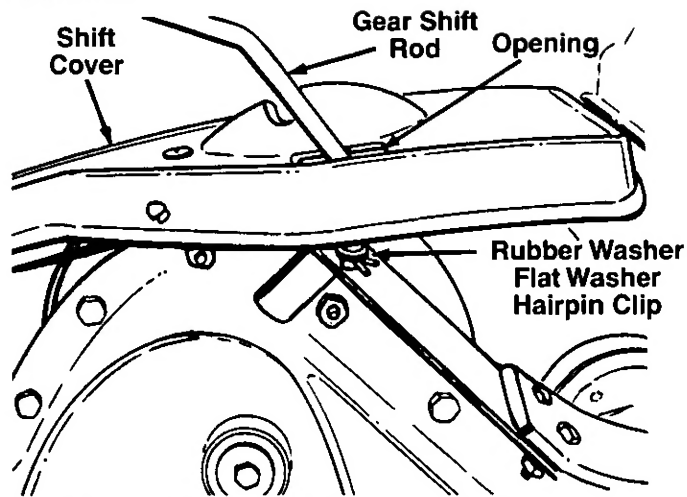

FIGURE 5.—Viewed from Right Hand Side
2. Insert the end of the gear shift rod through the opening in the top of the shift cover, and into the shift bracket. See figure 5. Secure with rubber washer first, then flat washer and hairpin clip.